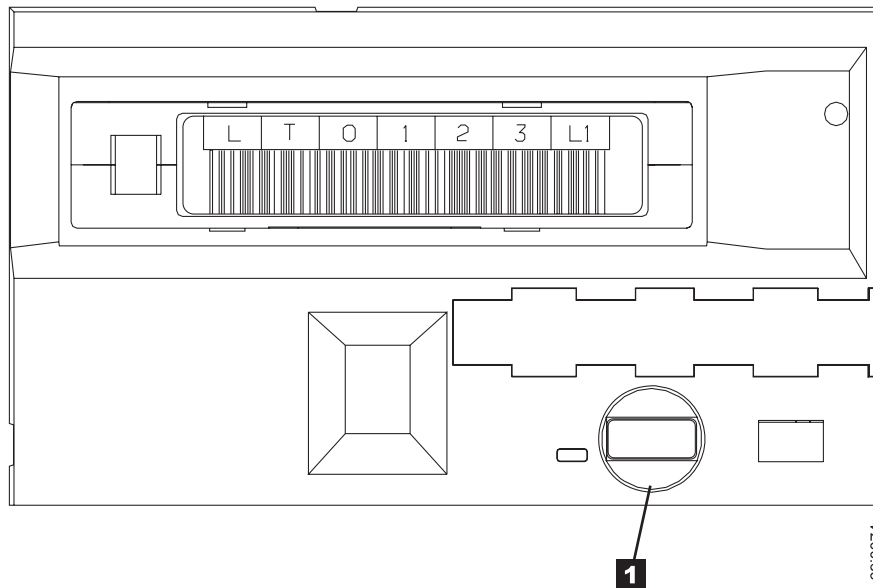

Figure 36. Removing a cartridge from an Ultrium tape drive
- a. Press and release the unload button (1 in Figure 36 on page 87).